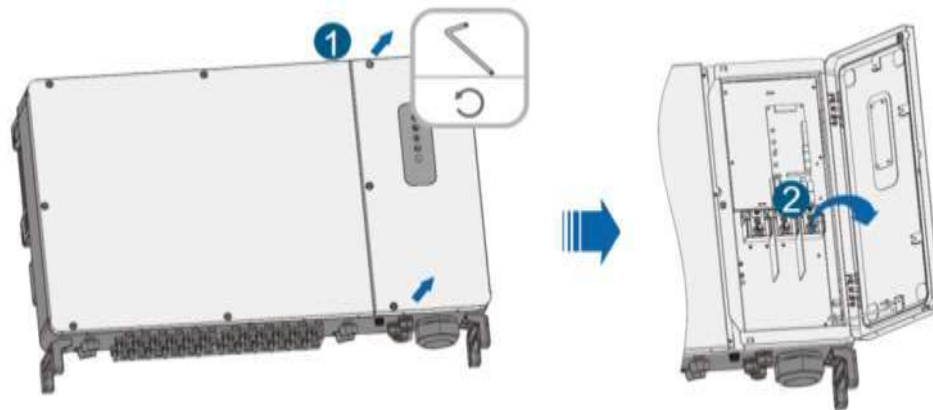

Fig. 4-25 Open the wiring compartment
- 2) Open the wiring compartment (Fig. 4-25).